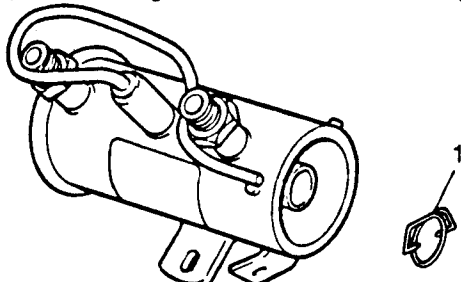

Fig C5.12
- (5) Refer to Fig C5.12. Remove the retaining ring (1).